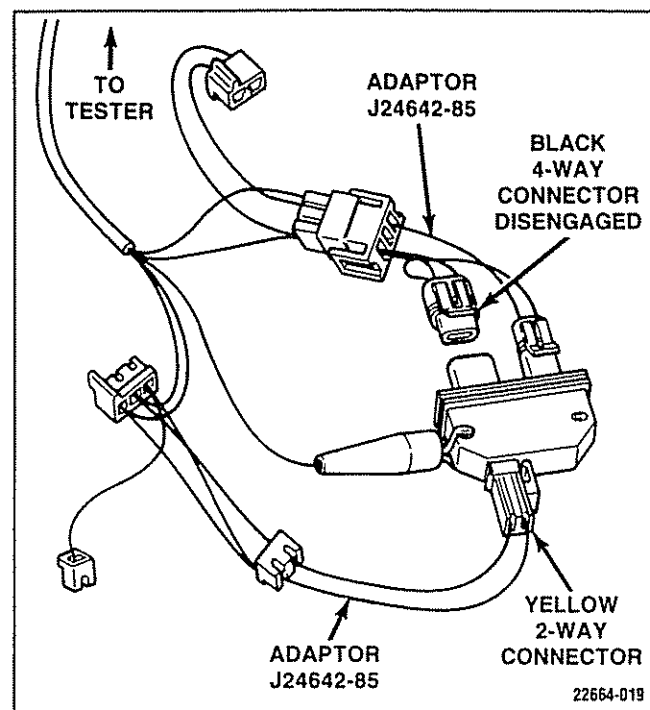

Figure 6-56. Test 2 Tester Connections
7. Disconnect black 4-way connector from module. Disconnect yellow 2-way connector, rotate it 180 degrees so the lock and tab are opposite each other, and reconnect it to the module terminals. See Figure 6-56.